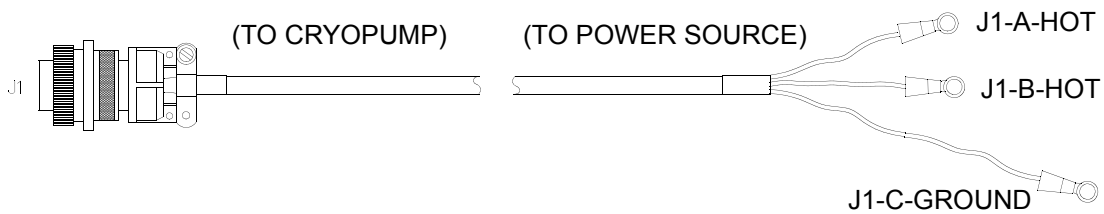

Figure 3-14: Input Power Cable
6. Connect the opposite end of the input power cable to a local 208 VAC, Single-Phase 5 Amp source as shown in Figure 3-14.